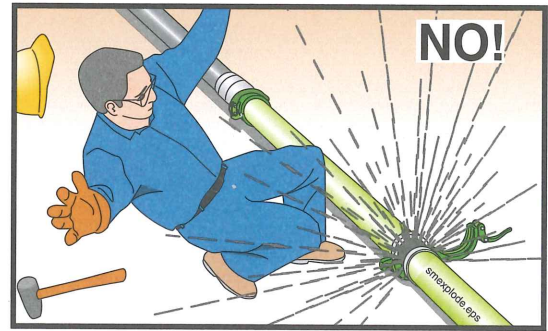

Figure 18
- Pump in **reverse** for **at least two strokes**, then stop the pump. In the case of a mechanical pump (which cannot be reversed), it is important to carefully follow the manufacturer's instructions for relieving line pressure before any clamp is opened. **Do not allow anyone to open the pipeline** until the pressure is relieved (Figure 18).